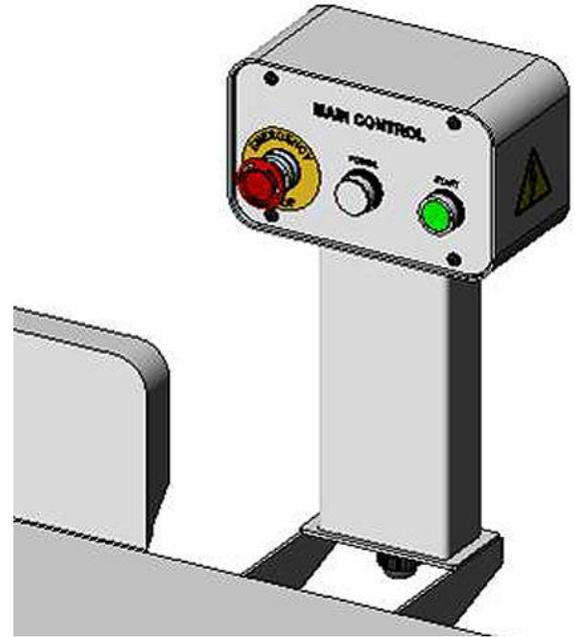

Fig. 7
1. Mount the dust chute to the pre-tapped holes in the side of the stand with four 1/4-20 x 1/2 handle screws and four flat washers. (Fig. 7).
The Shaper is equipped with a control box provided with ON - OFF push buttons (Fig. 7). To lock the switch in the OFF position, remove the switch key from the switch. Place the key in a location that is inaccessible to children and others not qualified to use the tool.